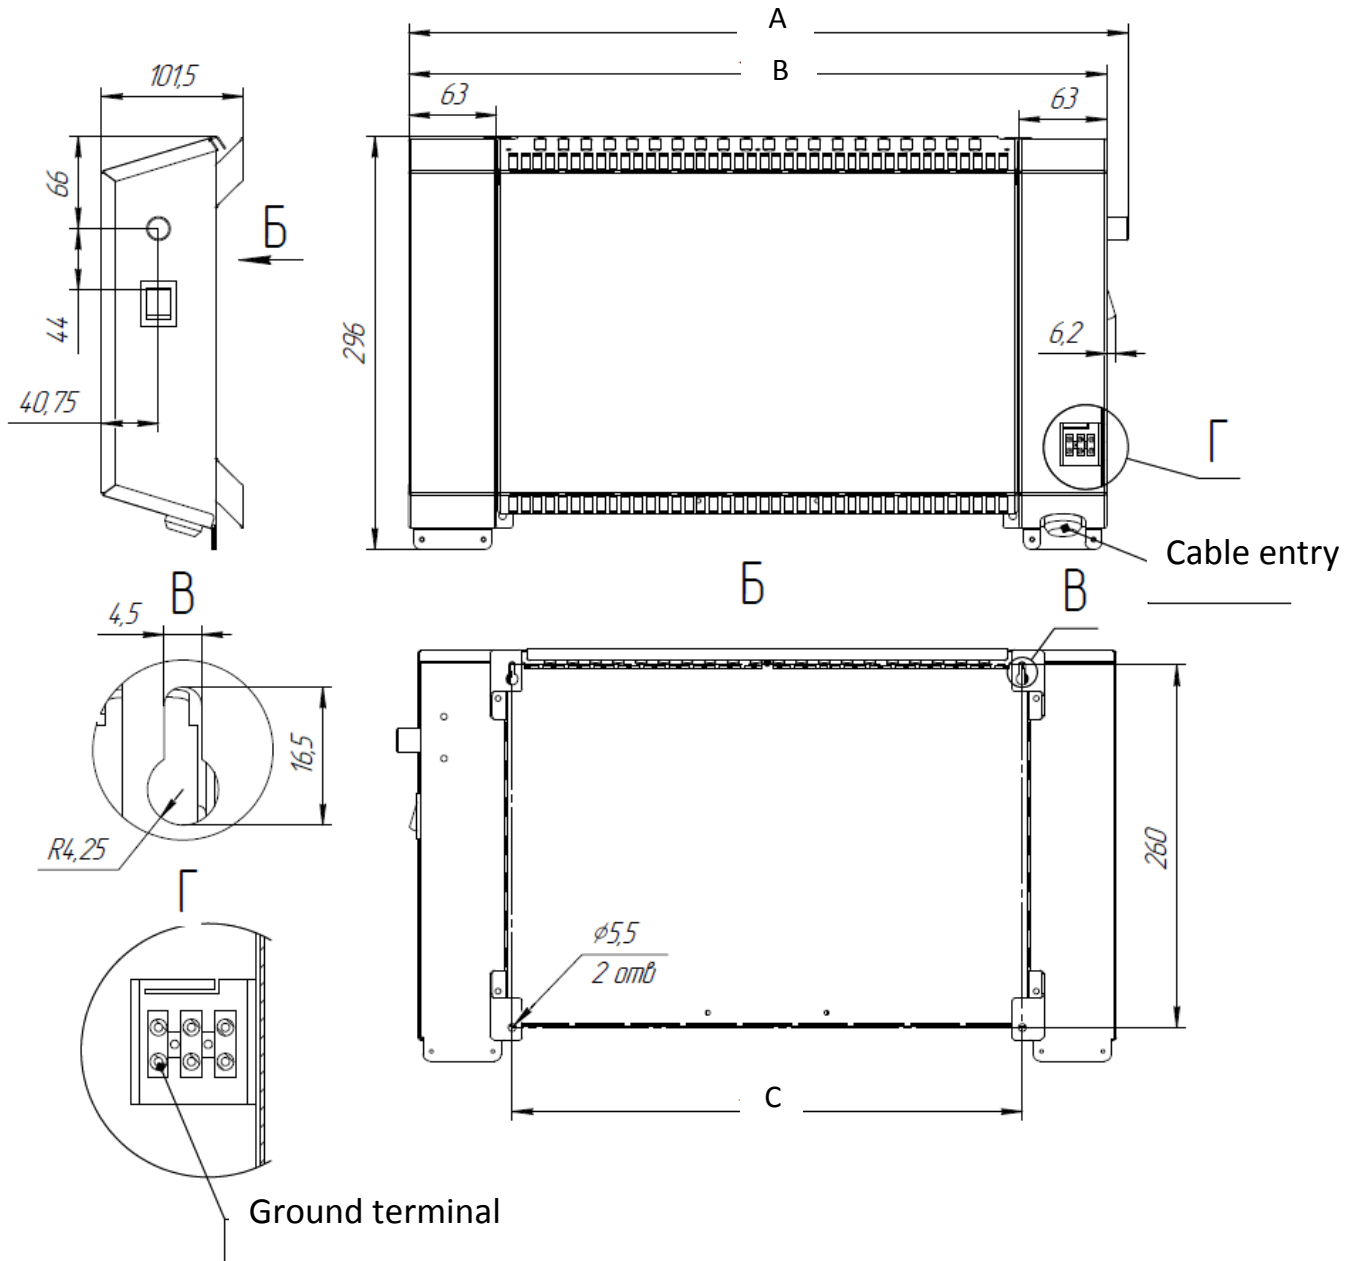

Fig 1. UT-xxxC. Installation drawing
1. Select an installation place providing free access, connection of cables and termination of cable ends in accordance with the dimensional drawing (refer to fig. 1). To ensure conformance to the IP 44 protection class, the convection heater should be mounted on a vertical bulkhead inside the ship.